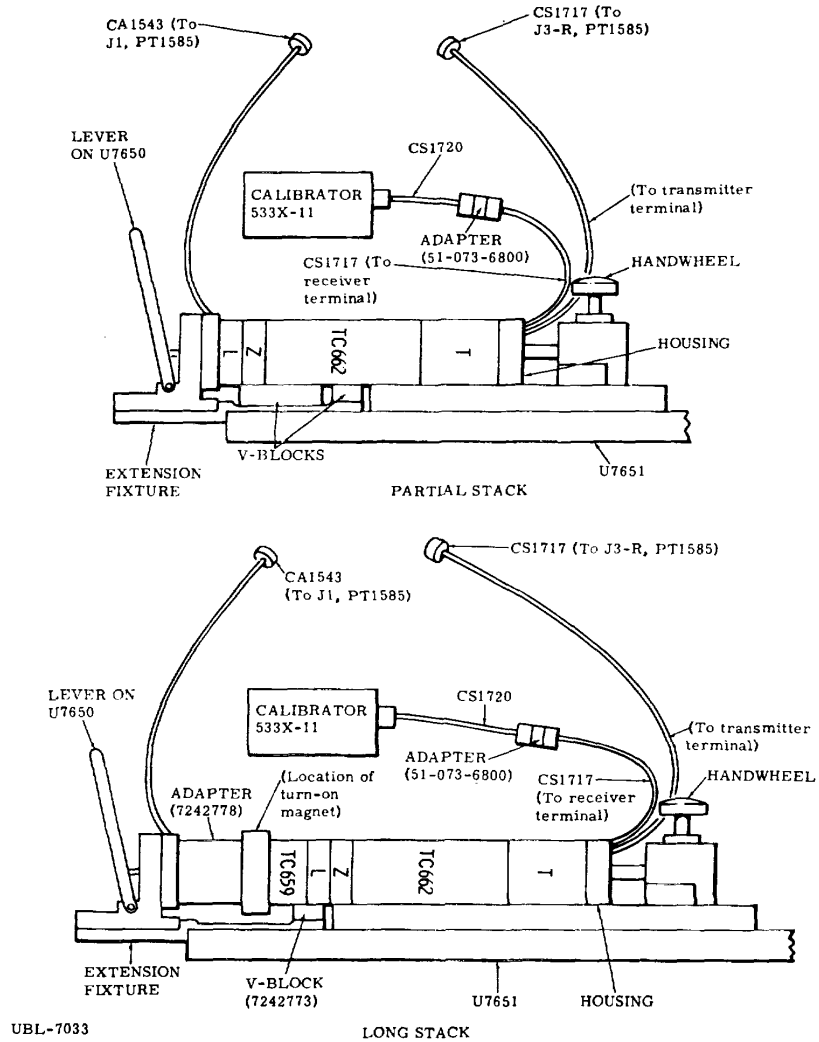

Figure 4-3U. Test Setup for MA134 EDET (H).
d. Starting at left end of stack shown in figure 4-3U, place first module in U7651 tray so that male pins are at left. Similarly place remaining modules in tray; align keys and keyways in modules.
**T0659 may be damaged if a low impedance load is connected to audio terminal (3, in figure 4-3R) of the transmitter. Connect cables only as shown in figure 4-3U.**
1. PREPARATION OF PT1585. On completion of partial stack test, continue as follows; but if necessary, prepare PT1585, turn it on, and test lamps as specified in paragraph 4-25R (1).
a. Position T0659 module as shown in figure 4-3U; rotate stack and T0659 as necessary to align keys and keyways in modules and to locate epoxy-filled groove in TC659 upward.
d. Assemble other equipment as shown in figure 4-3U.
a. Center Hamlin magnet (H-34), longitudinally over epoxy-filled groove in TC659 module (figure 4-3U).